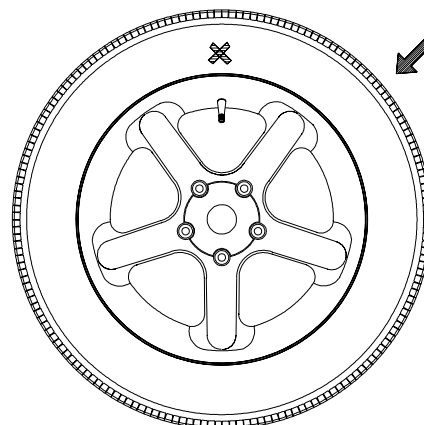

Figure 27 - Step 3, rotate tire on wheel so the valve and X mark line up. Rotate assembly to TDC, press "P".
(2) Deflate and rotate the tire on the rim so the valve points to the cross mark on tire. *Figure 27*